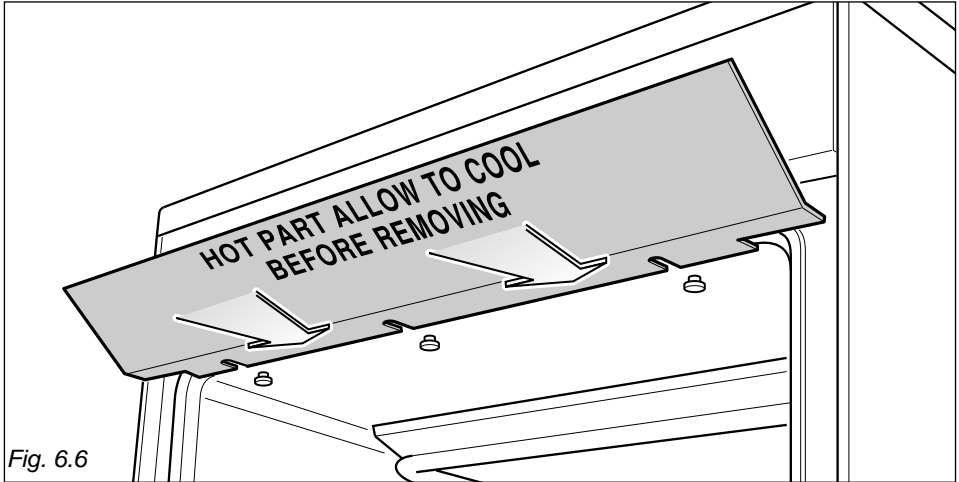

Fig. 6.6
**Do not grill with oven door closed. Always fit the heat shield supplied with the cooker under the front panel before commencing operations (Fig. 6.6).**
- It is important that the heat shield is fitted the correct way up, as shown in the figure 6.6.